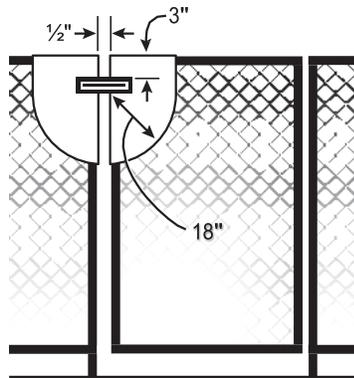

Figure 13
- Where the release mechanism of the self-latching device is located less than 54 inches from the bottom of the gate, the release mechanism shall be located on the pool side of the gate at least 3 inches below the top of the gate and the gate and barrier shall have no opening greater than ½ inch within 18 inches of the release mechanism (figure 13).